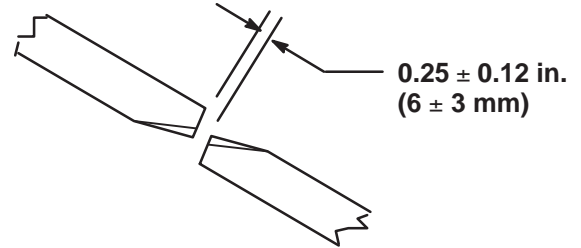

Figure 69
To ensure proper operation of the cutting unit, there must be 0.25 ± 0.12 in. (6 ± 3 mm) clearance between the tips of the wing and center cutting unit blades (Fig. 69).
2. Rotate a center and adjoining wing blade so there blade tips are aligned. Measure distance between blade tips, distance should be approximately 0.25 ± 0.12 in. (6 ± 3 mm) (Fig. 69).